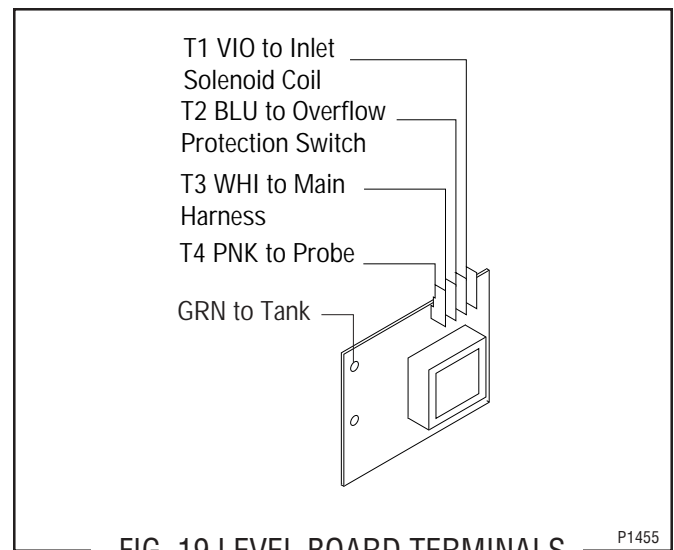

FIG. 19 LEVEL BOARD TERMINALS
4. Refer to Fig. 19 when reconnecting the wires.